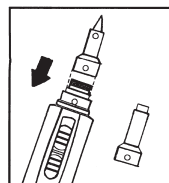

Fig. 4
2. Attach the soldering head with suitable soldering tip or the heat gun nozzle onto the blowtorch head. See Fig. 4.